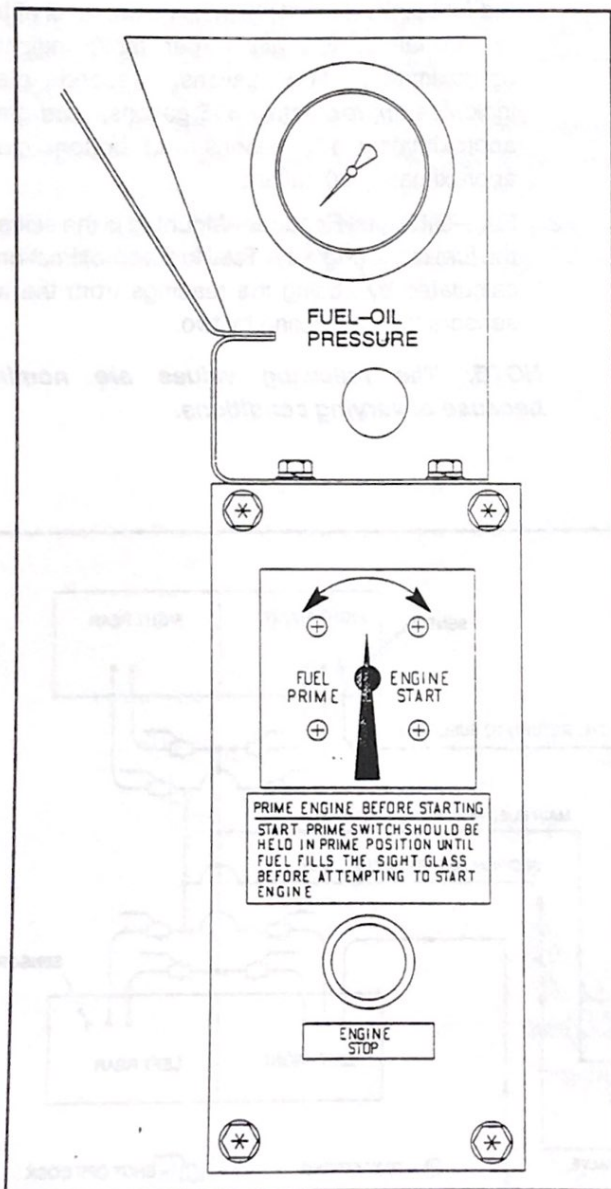

FIG. 42. ENGINE START STATION. E-41063.
The Engine Start Station (Fig. 42) is located in the engine compartment next to the main traction alternator. It consists of an engine PRIME/START switch, operating in conjunction with the EC switch located in the cab, which is used to start the diesel engine, and an ENGINE STOP pushbutton.
3. Fuel-Oil Pressure Gauge (Fig. 42) – Located above the engine Start Station. Normal reading at IDLE is approximately 50–55 psig.
In an emergency, any one of four electric pushbuttons may be depressed momentarily to cut off fuel delivery to the engine. One of these pushbuttons is located on each side of the locomotive platform near the fuel tank (Figs. 24 and 25). The third and fourth pushbuttons are located on the Engine Control (EC) panel (Fig. 12) and at the Start Station (Fig. 42).